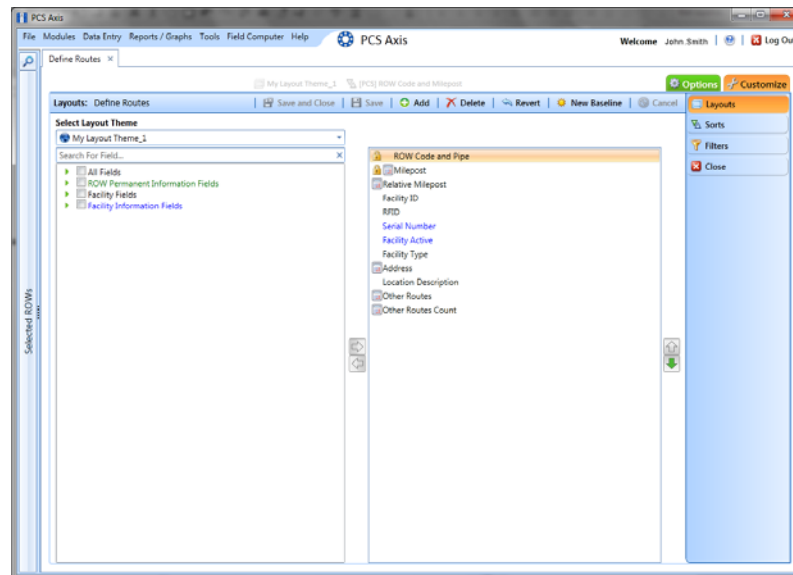

Figure 7-45. Layouts
- 7 Click  **Save** to save changes. The layout theme includes all fields listed in the right pane (Figure 7-45, page 332).